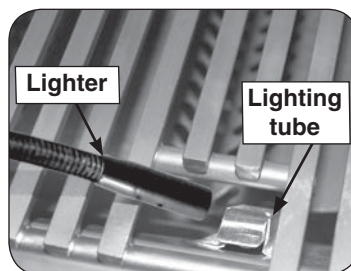
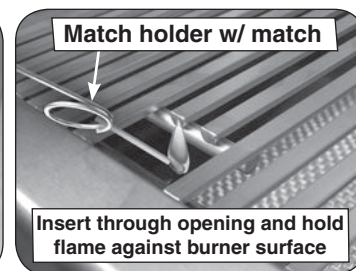

Fig. 27-2 Manual lighting via lighting tube
Fig. 27-3 Manual lighting via match holder
2. Insert either a burning long-barrel butane lighter or a burning long-stem match through the cooking grid opening to the top of the lighting tube (Fig. 27-2). For backburners or infrared burners, hold the flame against the surface of the backburner/infrared burner. Grills equipped with an infrared burner include a wire extension match holder (attached to drip tray) to assist with manual lighting (Fig. 27-3).
4. If the burner does not light within five (5) seconds of turning the control knob, **immediately depress the knob and turn the valve to OFF**. **WAIT FIVE (5) MINUTES** before repeating steps 2 through 4 of the MANUAL LIGHTING instructions.